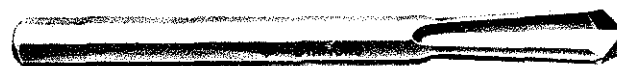

Fig. 12-31 Star drill
3. Drilling masonry can also be done with a star drill, figure 12-31. This tool is like the cold chisel except that the